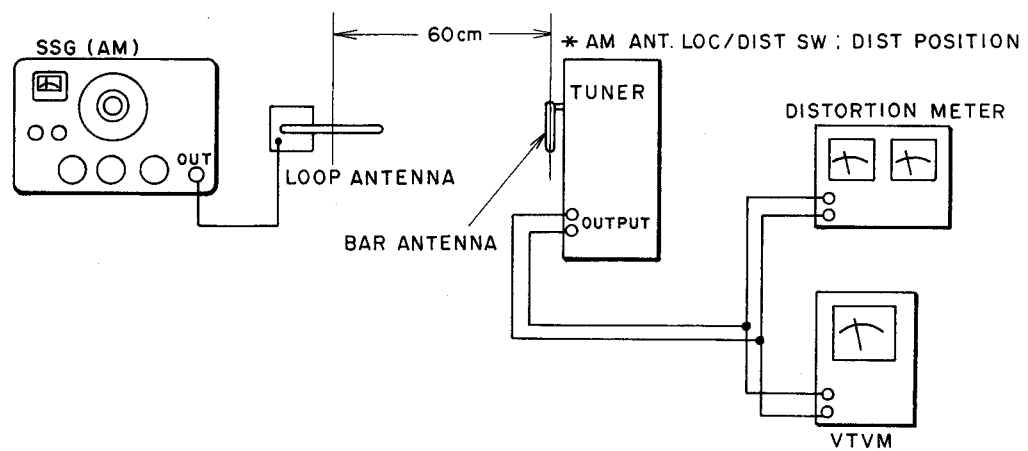

Fig. 5 Instrument Connections (AM)
2. AM SECTION ADJUSTMENT (Refer to Figs. 5, 6, 9 and 10)